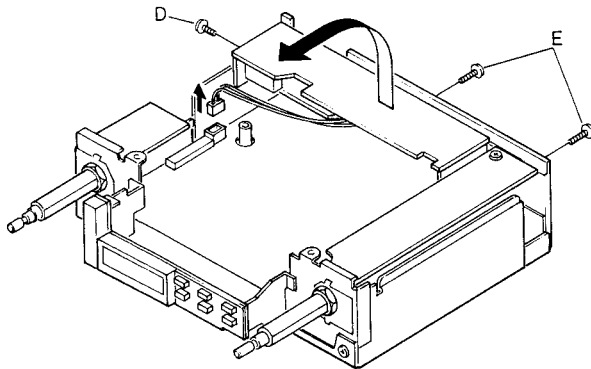

Fig. 3
2. Disconnect the connector. (Fig. 3)